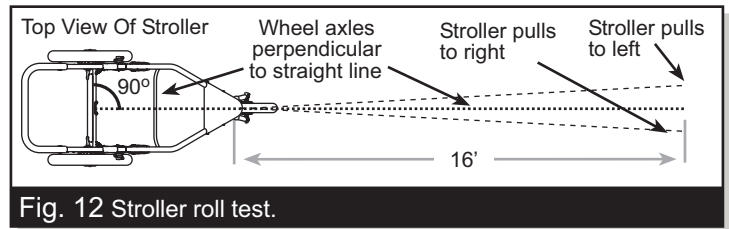

Fig. 12 Stroller roll test.
Note: Tracking adjustment can only be performed with the stroller fork locked out (Jog Mode). Roll test the stroller as described below. It is recommended you have someone assist with this task in order to catch and return the stroller. Fig. 12 illustrates the roll test process.
d. If the stroller consistently pulls to the left or right when pushed straight, proceed with the steps below until tracking is satisfactory. Fig. 12 illustrates how to interpret the results.